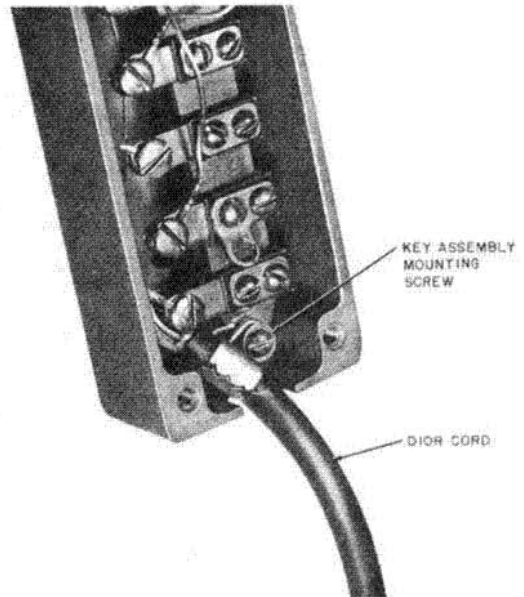

Fig. 7—Fastening D10R-87 Cord in 549C (MD) Keys
- Replace D9G (MD) cord with a D10R-87 cord or install a D10R-87 cord in 549D1 key (8-button key)
- Fasten cord in "S" hook depression (Fig. 2) or under key assembly mounting screw (Fig. 7).